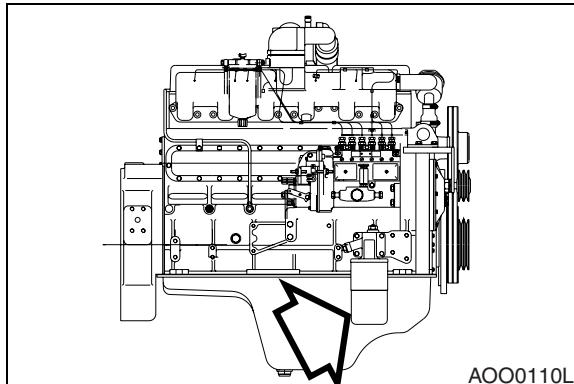

Figure 60 (S/N 3001 thru 4000)
2. Replace engine oil filter (Figure 60). Engine oil filter is a spin-on type. Remove and discard filter.